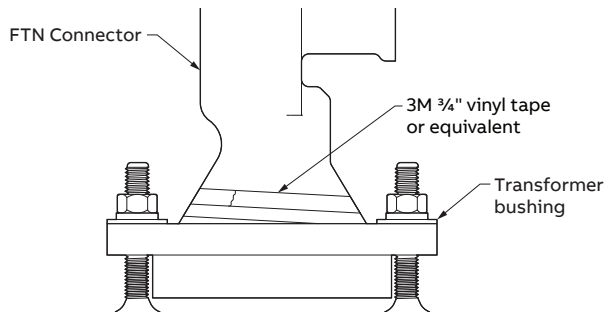

Figure 3
4. Fill gap in between the bottom of the FTN connector and the transformer bushing with waterproof sealant/insulating material, example Eaton AquaSeal sealant. Tape over bottom of the FTN connector with 3M ¾" vinyl tape or equivalent to complete the seal. (Figure 3).